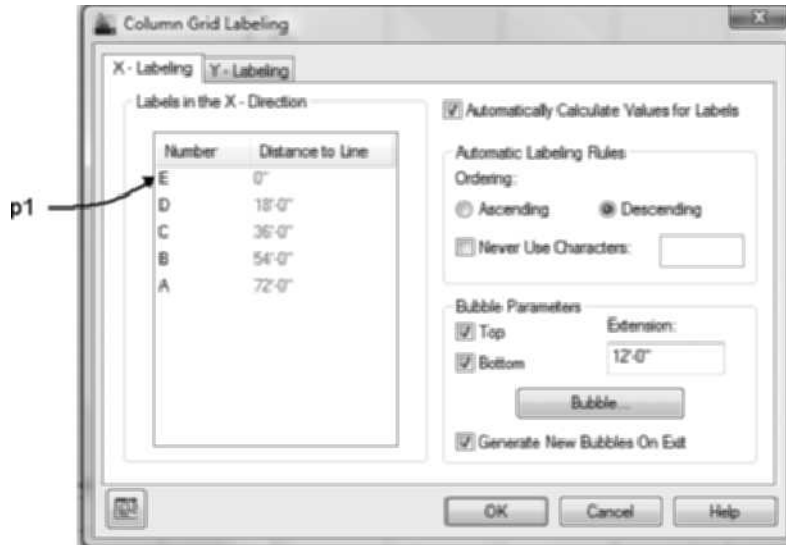

FIGURE 13.39 X-Labeling of the column grid
4. Select the column grid line and choose **Label** from the Label panel of the Column Grid contextual tab. Edit the **X-Labeling** tab: Check **Automatically Calculate Values for Labels**; select the **Descending** radio button; for Bubble parameters, check **Top** and **Bottom**; set Extension = 12'-0" [3500]; and select **Generate New Bubbles on Exit**. Click in the **Number** column and type **E** in the field as shown at p1 in Figure 13.39.